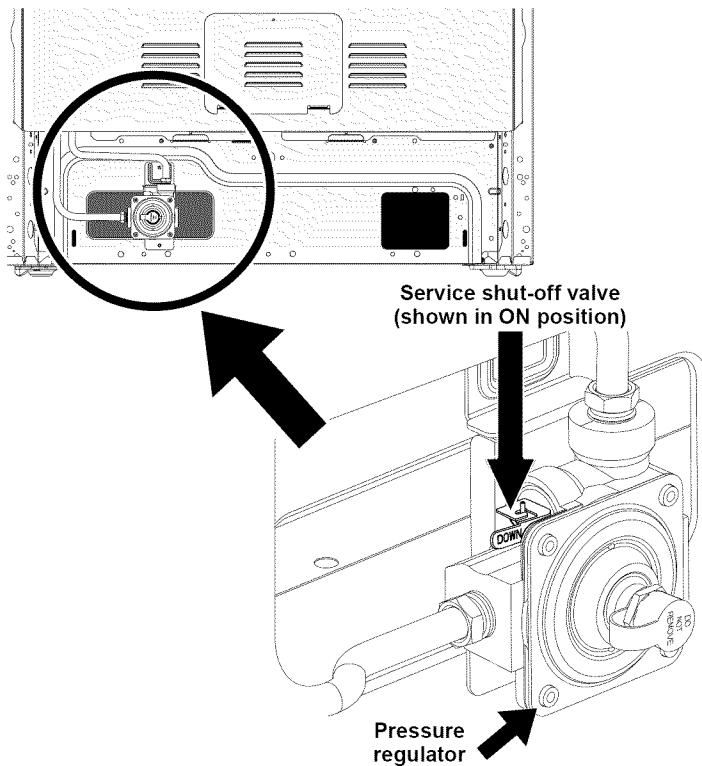

Fig. 11
- f. Make sure the **service shut-off valve on pressure regulator is set to the ON position** (See Fig. 11).